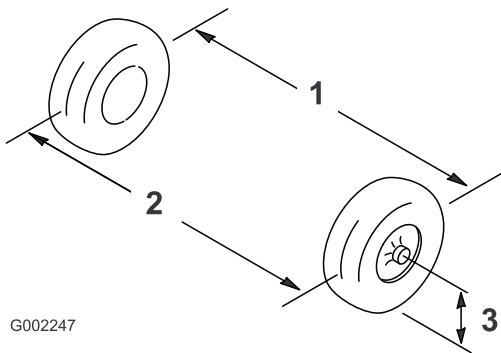

Figure 83
2. Measure the distance between both of the front tires at the axle height at both the front and rear of the front tires (Figure 83).
- Start the engine with the cap loosely on the radiator (Figure 83).